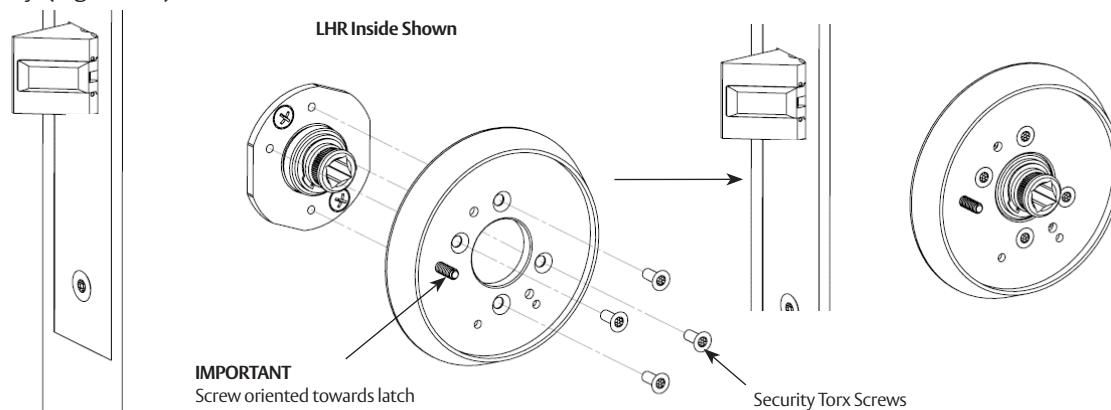

Figure 25
Attach inside rose assembly to inside adapter plate using four (4) security Torx screws. Tighten screws evenly. (Figure 25)